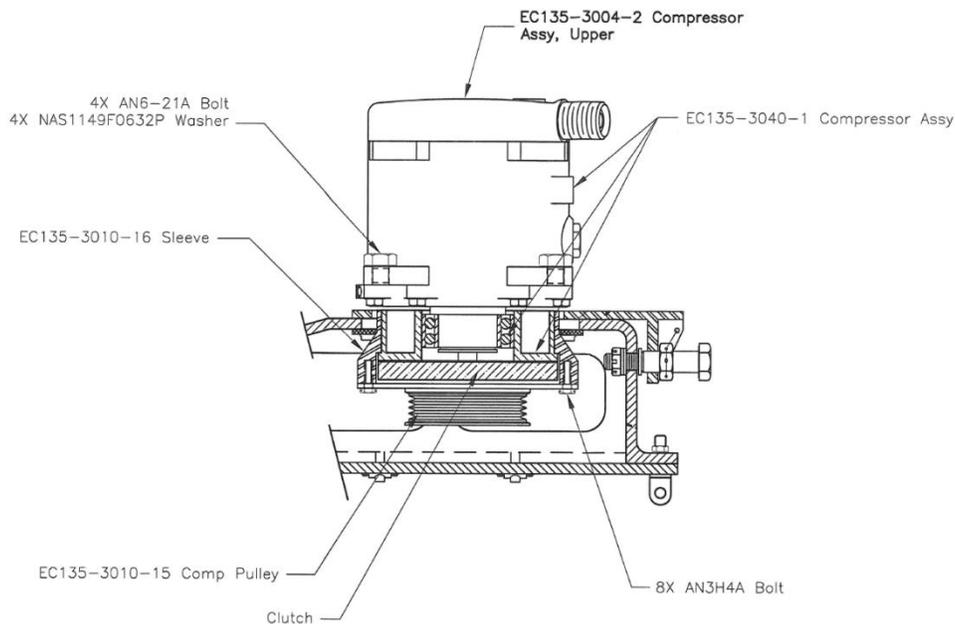

Figure 19: Compressor and Pulley Assembly
- M. Remove safety wire on 8X compressor pulley bolts and remove bolts (Figure 19).